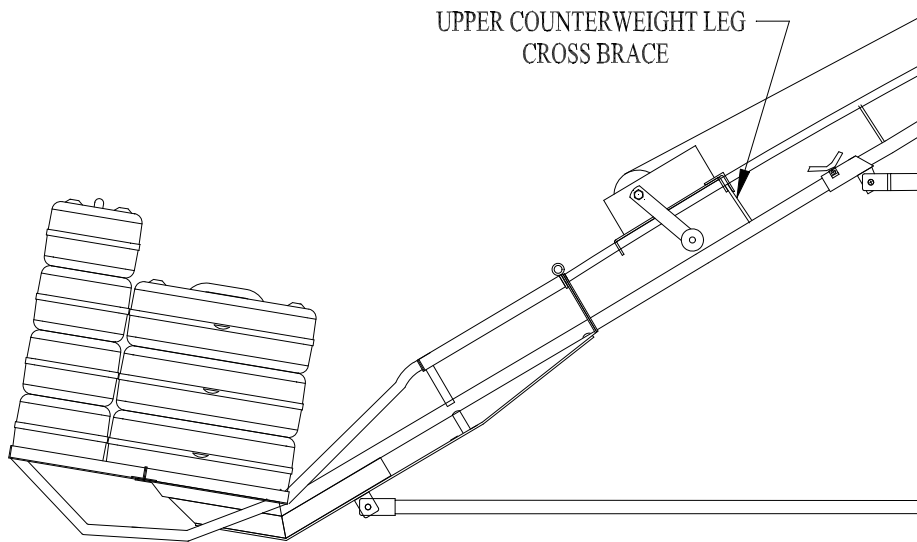

Figure 3-12.
2. Mount the hand winch on the hoist so the crank is located on the right-hand side. The winch is located on the upper counterweight leg such that the space between the front of the mounting plate and the angle clip fits over the counterweight leg cross-brace. Secure the winch in place by clamping the mounting plate to the counterweight leg with the angle clamp. See Figure 3-12.